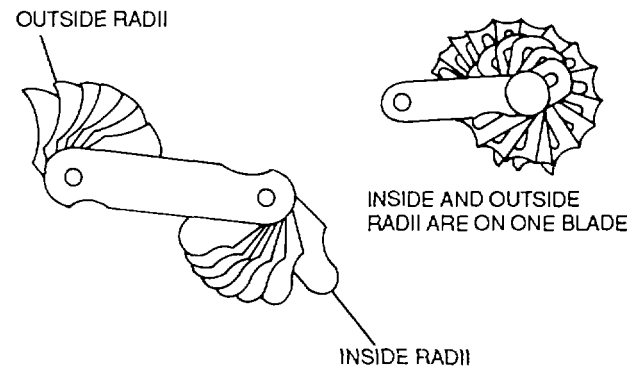

Figure 3-73. Fillet and Radius Gauges
a. Description. The blades of fillet and radius gauges are made of hard-rolled steel. The double ended blades of the gauge have a lock which holds the blades in position. The inside and outside radii are on one blade on one of the gauges shown in figure 3-73. The other gauge has separate blades for inside and outside measurements. Each blade of each gauge is marked in 64ths. Each gauge has 16 blades.